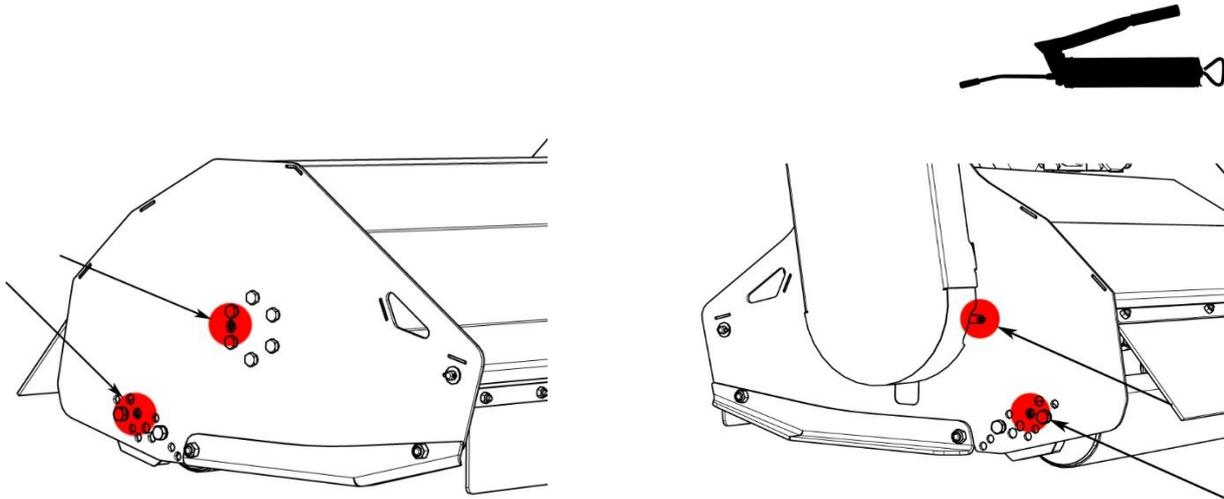

Figure 15: Greasing points on the machine
- The greasing points are lubricated (Figure 15).